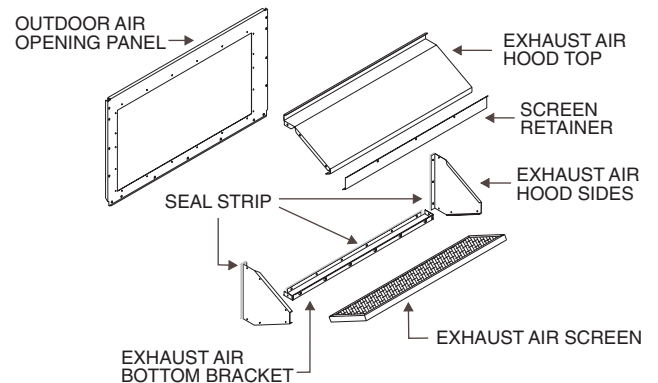

Fig. 30 — Exhaust Air Hood Assembly
2. To assemble the hood assembly remove the EconoMiSer hood from its packaging. Locate the outdoor air opening panel. See Fig. 30.
3. Install the 19 mm x 19 mm ($\frac{3}{4}$ x $\frac{3}{4}$ -in.) seal strip on the exhaust air hood top panel. Install the 3 mm x 22 mm ($\frac{1}{8}$ x $\frac{7}{8}$ -in.) seal strip on the exhaust air hood side panels and bottom brackets. Assemble the exhaust air hood to the outdoor air opening panel as shown in Fig. 30, using the screws provided. *Do not attach hood assembly to unit at this time.*